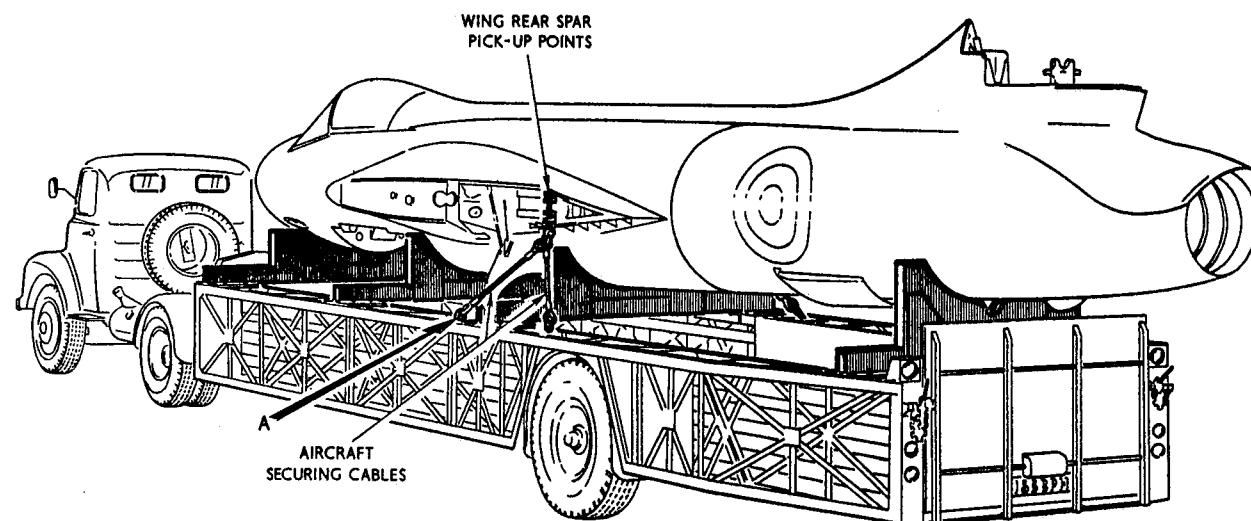

Fig. 8 Loading aircraft on trailer
4. REMOVE THE WINGS, ELEVATOR, ANTI-BUFFET FAIRING, RUDDER AND FIN, SLING THE AIRCRAFT WITH THE SALVAGE TYPE SLING, STEADYING THE FUSELAGE WITH GUIDE ROPES. LOWER THE AIRCRAFT ON TO THE TRAILER WITH THE NOSE TO THE DRIVER'S CABIN, SETTLING THE FUSELAGE ON TRESTLES AT FRAMES 8, 19, 32 AND 52 AS SHOWN ON FIG.8. THE TRESTLES ARE TO BE SECURED TO THE TRAILER TO PREVENT MOVEMENT DURING TRANSIT. LOAD THE REMAINING STRUCTURE ON A SECOND TRAILER.